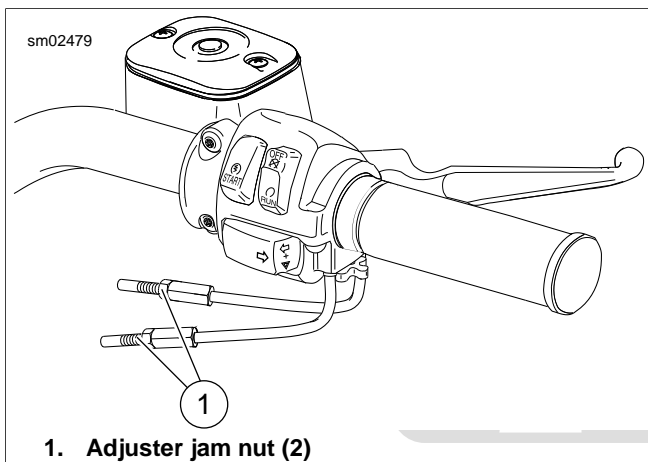

Figure 2-94. Handlebar Throttle Control
1. See Figure 2-94. Loosen cable adjuster jam nuts. Screw throttle cable adjuster until it is as short as possible. Remove the two screws that hold the handlebar housing together to separate the upper and lower housings.
2. See Figure 2-94. Attach the control cable assemblies to the lower housing.